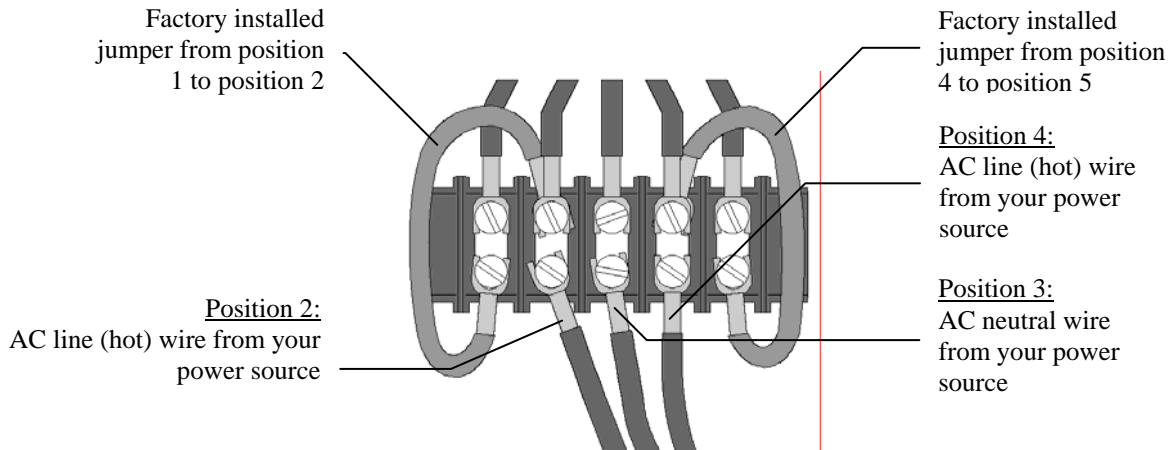

Figure 10 240 VAC Connections
4. If you are going to connect the scoreboard to a 240 VAC supply, connect one AC line wire to position 2, AC neutral wire to position 3, and the other AC line wire to position 4 of terminal strip T4 on the junction chassis according to figure 10.